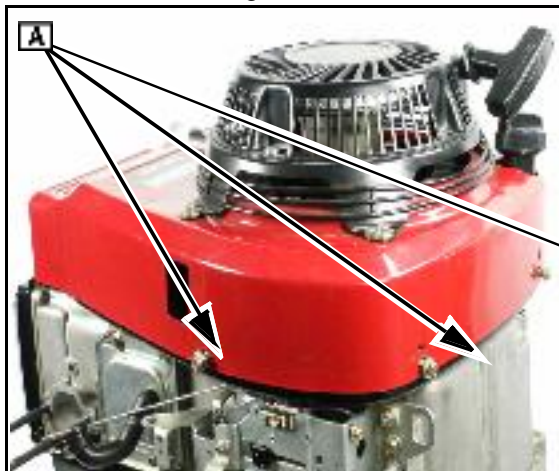

Fig. 5
2. Remove screws ([A] Fig. 5) from the blower housing.